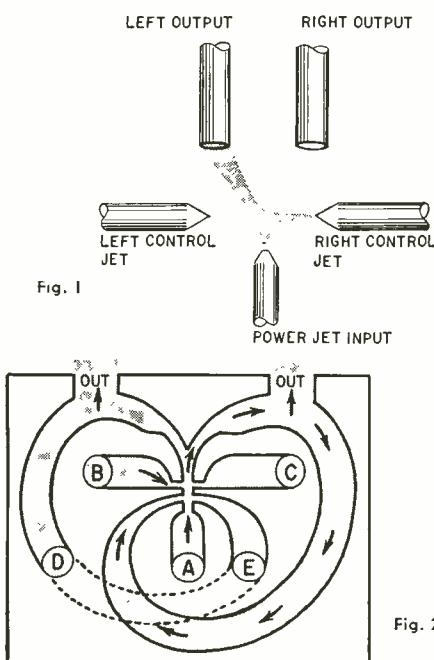

Fig. 2
When properly arranged, a simple fluid multivibrator can be made (Fig. 2). Here, the power jet input is at A. A control jet (B) directs the power jet to the right (if the control jet was at C the power jet would be deflected to the left). The fluid (or gas) flows around back to the input. Now control is switched to C and the jet moves around to the left. Periodically switching control jets produces a flow at each output in the best multivibrator fashion.